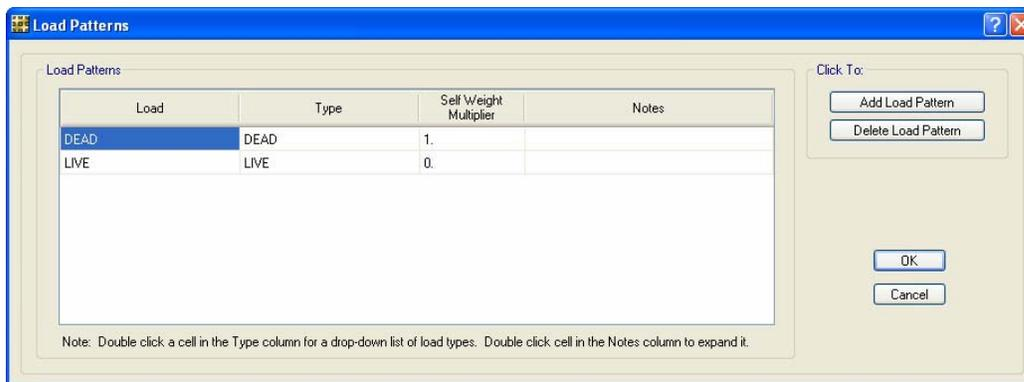

Figure 17 Load Patterns form
- A. Click the **Define menu > Load Patterns** command to access the Static Load Case Names form shown in Figure 17.